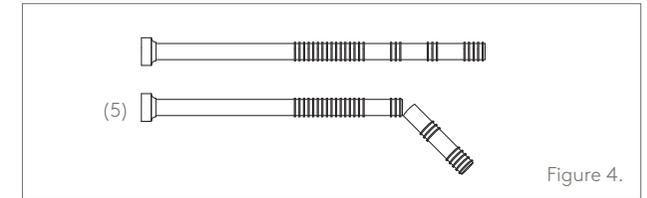

Figure 4.
- 4.1. If required, shorten cut-off screws to suit door thickness. (Figure 4.)